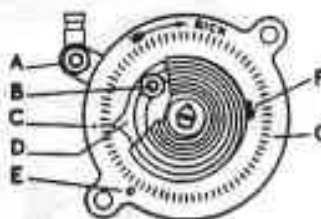

FIG. C16. THERMOSTAT.
Refer to Fig. C16, unhook thermostat spring from prong (F), loosen locking screw (B) and rotate the indicator point (D) to the "O" (Zero mark E) on the plate (G). In this position, the hook on the thermostat spring should come flush with the prong (F) of the indicator, the lever (A) being held up against the stop. The pointer (D) should then be revolved until it is opposite